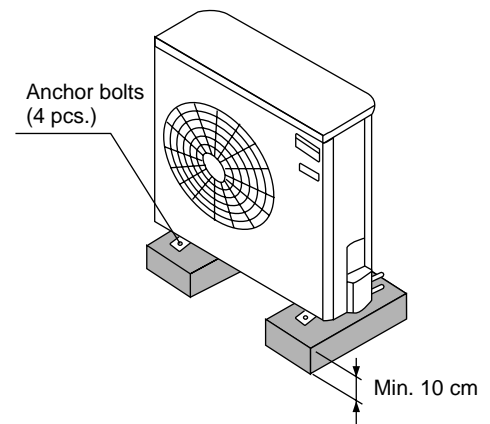

Fig.4
- provide a solid base (concrete block, 10 x 40 cm beams or equal), a minimum of 10 cm above ground level to reduce humidity and protect the unit against possible water damage and decreased service life. (Fig. 4)
- use lug (anchor) bolts or equal to bolt down the unit, reducing vibration and noise. (Fig. 4)